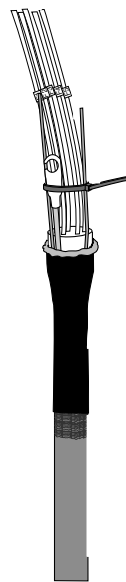

Fig. 9
14. With the CV1981 on setting 6, begin shrinking the tube around the top of the funnel. After recovering 1" of tube on funnel, pause for 15 seconds to allow the adhesive to set on the funnel. Complete shrinking the tube. (Figure 9)